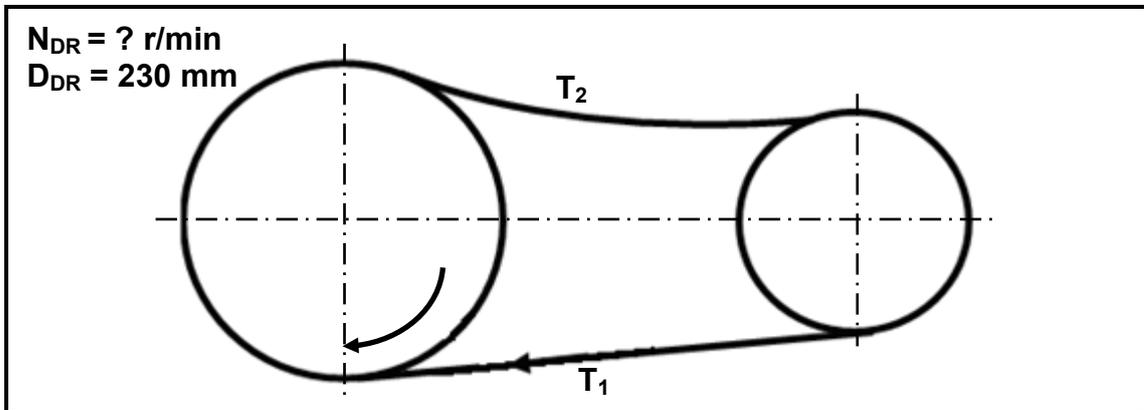

FIGURE 9.1
9.1 FIGURE 9.1 shows a belt-drive system with a 230 mm driver pulley. The belt speed in this system is 36 m.s⁻¹. The tensile force in the slack side is 140 N and the ratio between the force in the tight side and the force in the slack side is 2,5.